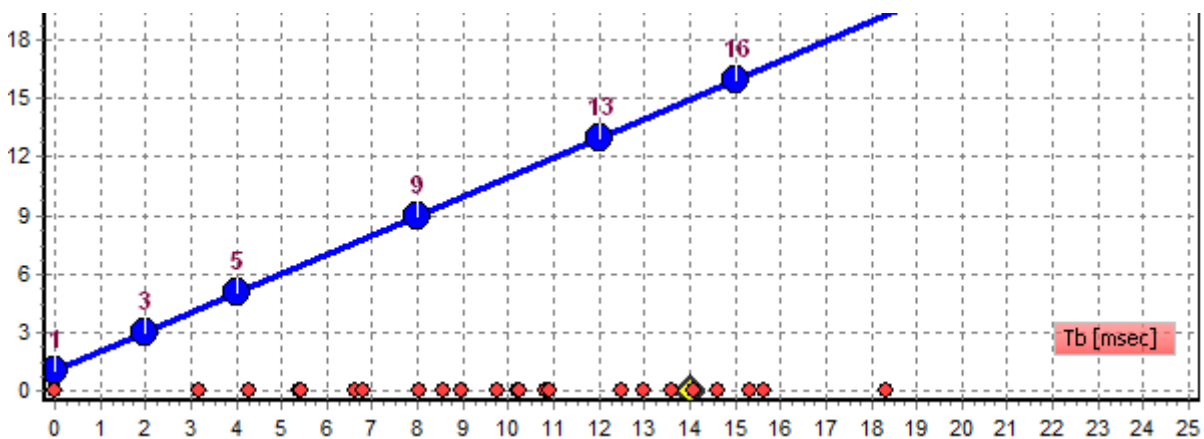

Fig. 3.40 Petrol template based on collected petrol map.
7. If used gas injectors were used for the first time during autocalibration, their characteristics may change drastically during first drive on gas. Therefore first autocalibration may not give correct results. It is recommended to check if idle model is still correct after first drive on petrol by comparing petrol time at idle on gas and petrol time at idle on petrol (figures 3.40, 3.41).